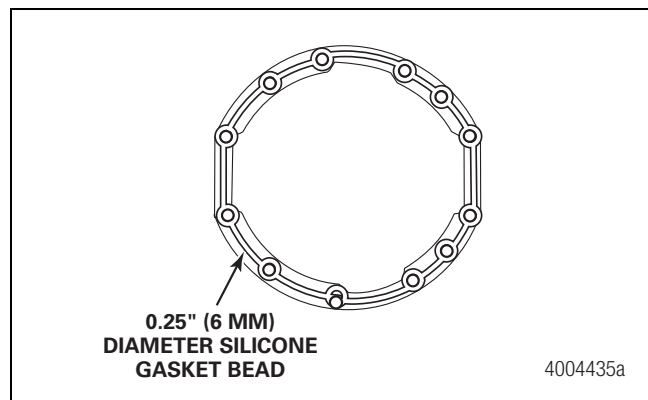

Figure 4.3
12. Apply a 0.25-inch (6 mm) bead of Loctite® 5699 silicone gasket material to the housing face. Do not use ThreeBond 1216E silicone products. Figure 4.3.